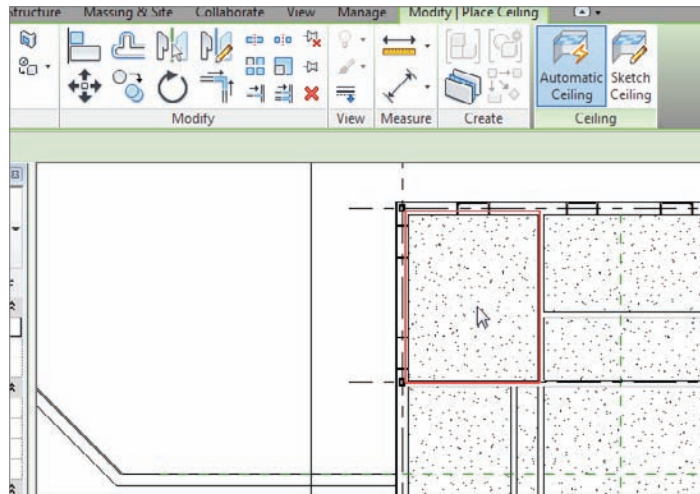

FIGURE 9.4 The ceiling finds a home.
5. Hover your mouse over the room shown in Figure 9.4. Notice that the perimeter is outlined in red. This indicates that the ceiling has found at least four walls you can use as a layout.